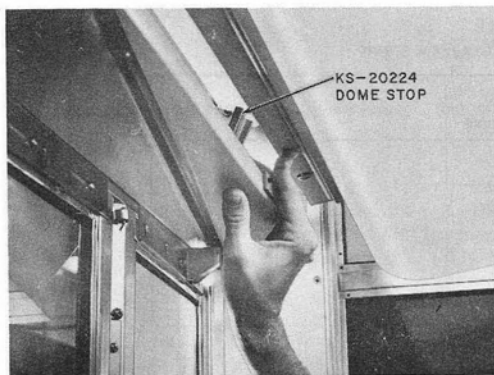

Fig. 4—Releasing Dome Stop
- 2.10 To lower the dome, push up on dome stop as shown in Fig. 4. After dome is lowered, release the stop.